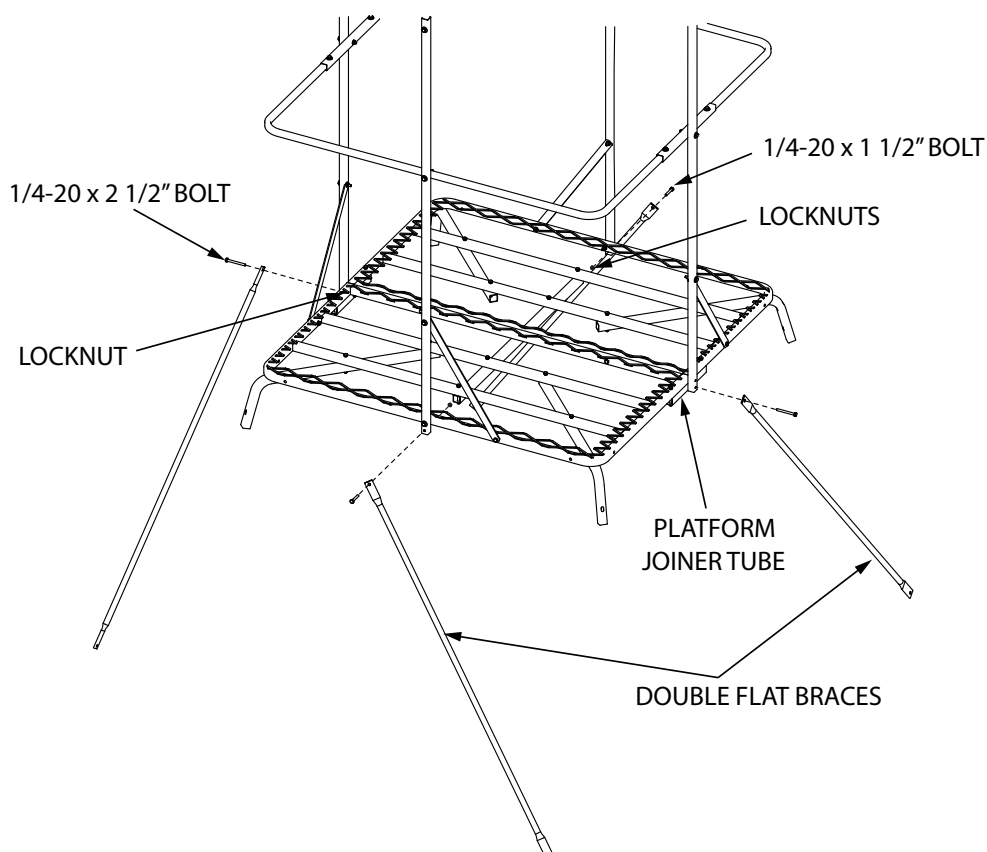

FIGURE 10
- Attach (2) double flat braces (TP135) to the bottom hole of each blind upright (TWR18) that is already attached to the long side of each platform using (2) provided 1/4-20 x 1-1/2" bolts and locknuts. **SEE FIGURE 10.**
- Attach remaining (2) double flat braces to blind uprights/platform joiner tubes using (2) provided 1/4-20 x 2-1/2" bolts and locknuts. **SEE FIGURE 10.**